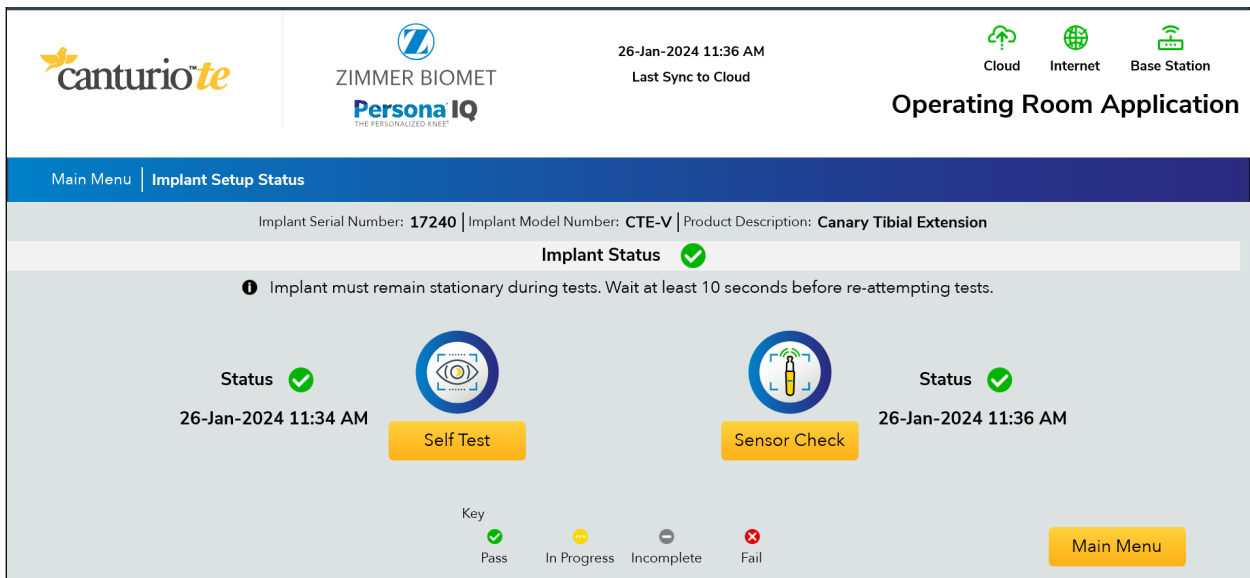

Figure 12: Self-Test and Sensor Check Successful
12. When the Self-Test and Sensor Check are successful, the implant is ready to be used for the patient's TKA surgery. (Figure 12)